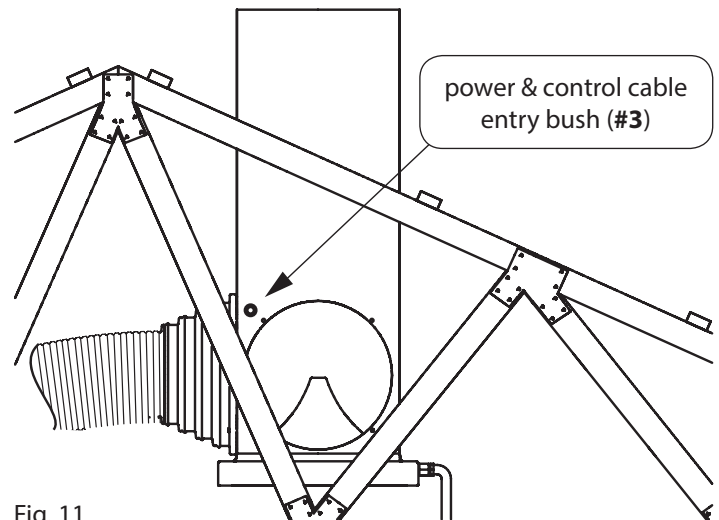

Fig. 11
- Drill a 25mm hole in Duct above the flashings on the left hand side of the Duct (Fig. 11).